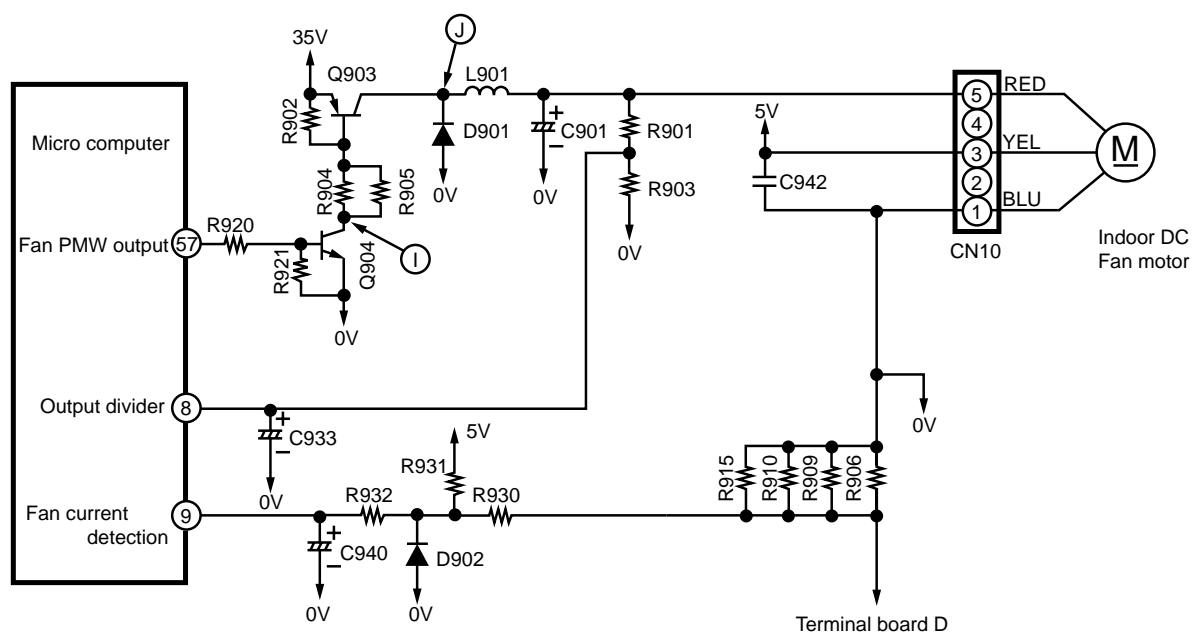

Fig. 8-1
- Fig. 8-1 shows the indoor DC fan motor drive circuit.